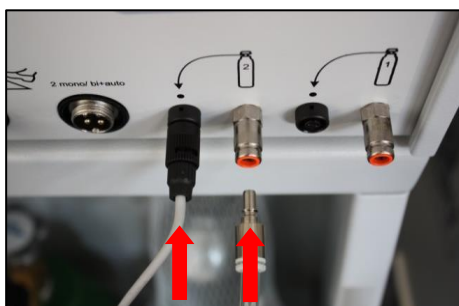

Figure 4
- Plug in the mechanical style pressure switch (3) leaving cable in gas measure line 1 or 2 (14 or 12).
- Plug in the outlet connection (5) leaving tube with its adapter at the end to gas connection 1 or 2 (15 or 13). The lock engages by itself (Figure 4 and 5).